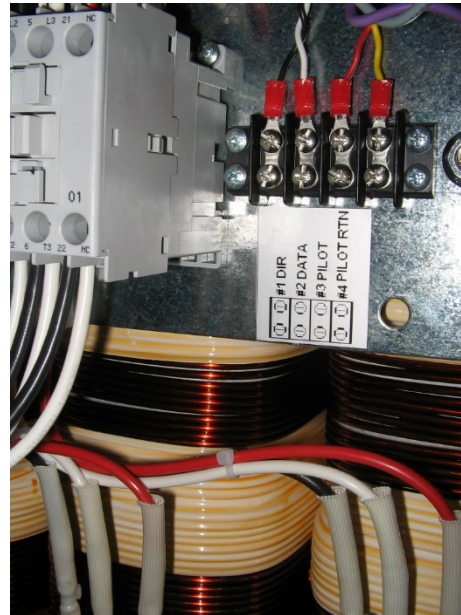

Figure 2: Electrical Connections
6. Connect the negative and positive lugs to the terminal posts allowing service loop as shown in Figure 2.
7. Connect the small communication lugs to the terminal strips as shown in Figure 2. Wires are numbered to match the labeling on the SVS, as well as the numbering on the plug and receptacle of the Hub Connector.
8. Install the Rubber Grommet (3) and insert the appropriate power or communication cable into the slots. The grommet should be placed on the cables as close to the feed through as possible.
9. Push the Rubber Grommet (3) into the Hub Connector Body (4).
10. Slide the Stainless Steel Washer (2) and Threaded Cap (1) up to the fitting, and tighten until the Rubber Grommet (3) is compressed tightly.
18. Connect the negative and positive lugs to the terminal posts allowing service loop as shown in Figure 2.
19. Connect the small communication lugs to the terminal strips as shown in Figure 2. Wires are numbered to match the labeling on the SVS, as well as the numbering on the plug and receptacle of the Hub Connector.